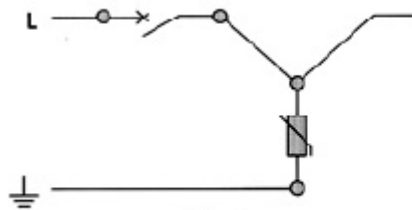

Fig3
1. From power switch to protective device , then from protective device again to the load end . This way suits to the distribution case which load current is under 100 A . The wire section should be selected by the load current . ( Figure 3 )